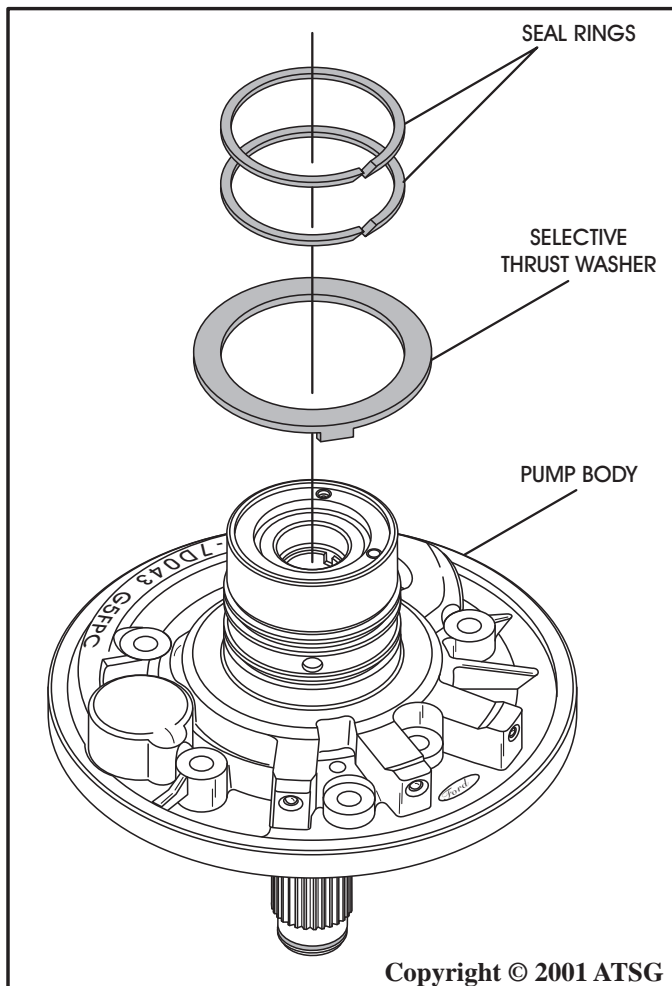

Figure 55
5. Install selective thrust washer that came with the unit and retain with Trans-Jel®, as shown in Figure 55.
6. Install the two overrun clutch seal rings into their grooves and insure that the scarf cuts are assembled properly (See Figure 55).